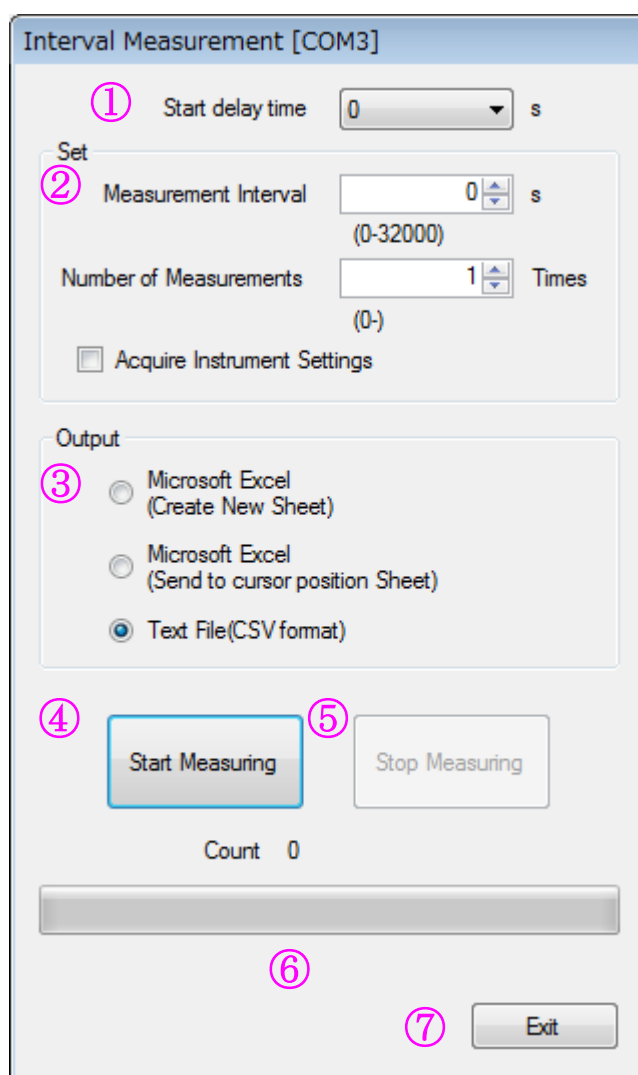

Fig 3-17. Interval Measurement
- (1) Select [Measure]-[Interval Measurement].
- (2) [Interval Measurement] screen will appear. (Fig 3-17)
- (3) Set [Set] section and [Output] section, then click [Start Measuring].